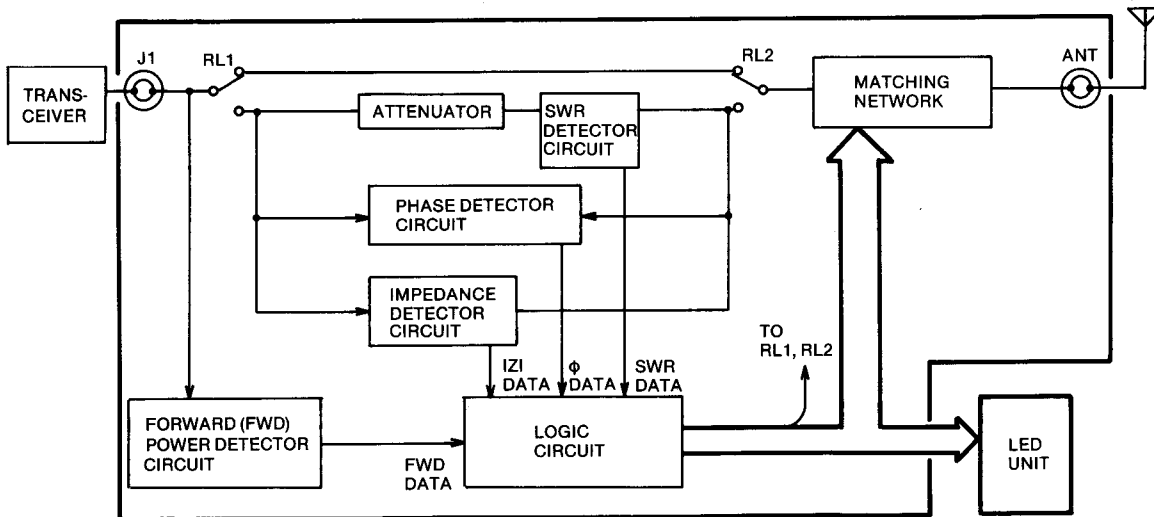

Fig. 1
- (1) Connect the SWR meter between the IC-M700 and AT-120 as shown in Fig. 1.
- (2) Be sure the S1 PRESET SWITCH on the AT-120 is set in the [NORMAL] position.
- (3) Set the IC-M700 to your most used channel.
- (4) Push the TUNE SWITCH of the IC-M700 to tune the AT-120. Be sure the SWR reading is less than 1 : 2.0.
- (5) Make a note of which LED lights up on the AT-120.
- (6) Set S1 on the AT-120 to the [PRESET] position.
- (7) Set S2, S3 and S4 at the same location where the LED lights up.
- (1) Connect the SWR METER between IC-M700/F and AT-120E as shown in Fig. 1.
- (2) Set the GROUP SWITCH on the IC-M700/F to the [2182] position.
- (3) Remove the wire from J9 and tape the ends of the wire.
8. To remove the cover of the antenna tuner, remove 10 screws as shown in Fig. 1.